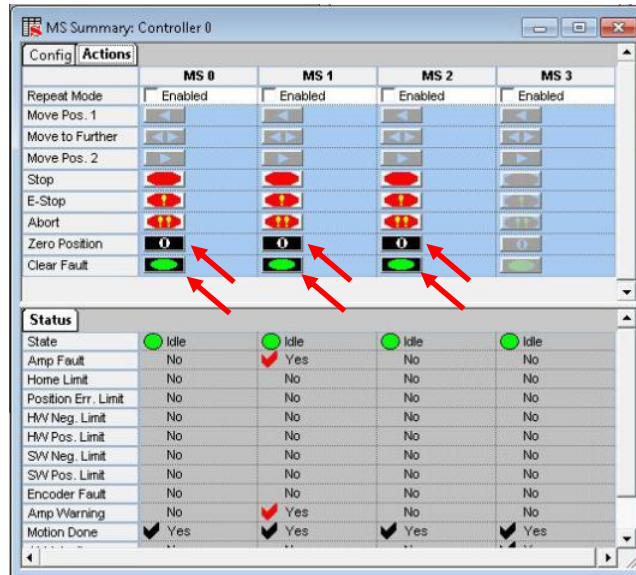
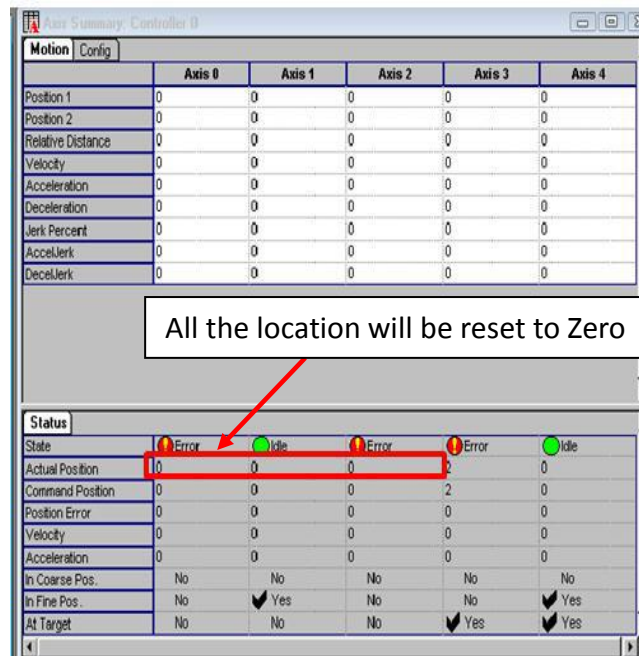

Figure 16 MS Summary
Figure 17 Axis Summary (Actual position)
14. Reset again the Axis 0 become zero as shown in Figure 16 and ensure the actual position for the Axis 0, Axis 1 and Axis 2 become zero as shown in Figure 17.